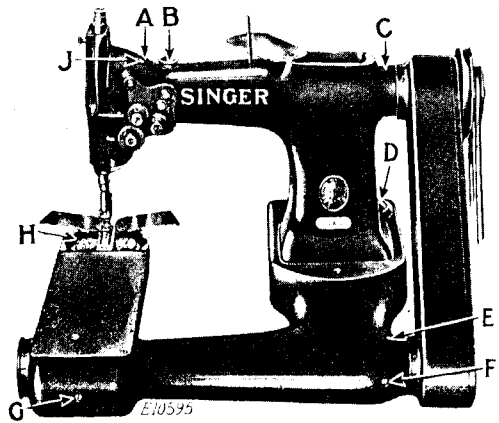
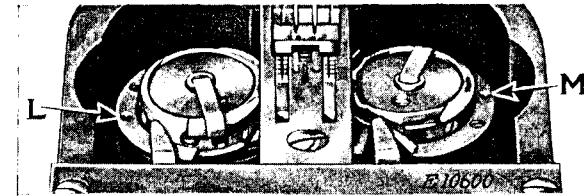
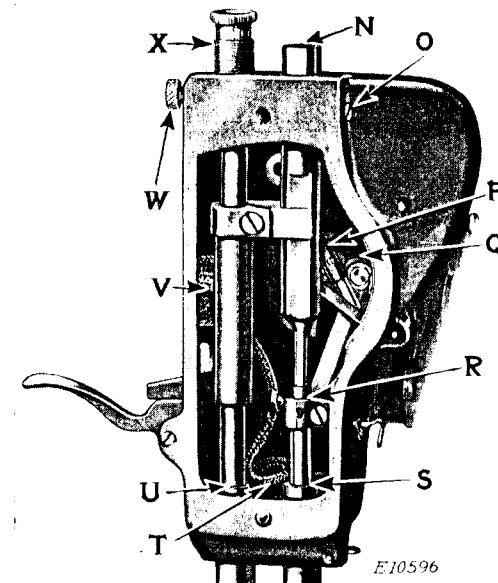

Fig. 2. Front View of Machine, Showing Oiling Points Also Adjustments on the Machine
Fig. 4. Oil Holes for Bobbin Case Bearings in Sewing Hooks
Fig. 5. End View of Machine, Showing Oiling Points Also Adjustments on the Machine
1. After the machine has been set up so that its bed cover plate is perfectly level, remove the screw plug (G, Fig. 2), then swing back the hook covers and pour oil into the bed through the opening (H, Fig. 2) until it starts to flow out of the screw plug hole at (G), then replace the screw plug tightly. This hole indicates the high level of the oil which should be maintained in the bed. This oil level must be checked once each week when the machine is in continuous use.
3. Using the oil can furnished with the machine, apply oil to the places marked (A, B and C, Fig. 2), (L and M, Fig. 4) and (N, P, Q, R, S, T, U and V, Fig. 5). These points must be oiled daily when the machine is in continuous use, except the places marked (L and M, Fig. 4) which must be oiled each time a bobbin is replaced.
Oil Drain. Surplus oil from the machine drains into the oil well which is located in the base of the machine at the rear, as shown at D, in Fig. 2. This oil well may be kept empty by soaking out the oil with a dry rag.
Apply oil to the oil holes (L and M, Fig. 4) in the hook gibs each time a bobbin is replaced.
The pressure on the material is regulated by the thumb screw (X, Fig. 5) at the top of the machine. To increase the pressure, loosen the set screw (W, Fig. 5) at the back of the machine and turn the thumb screw (X) downward. To decrease the pressure, turn the thumb screw (X) upward. When the required amount of pressure is obtained, tighten the set screw (W) at the back of the machine.